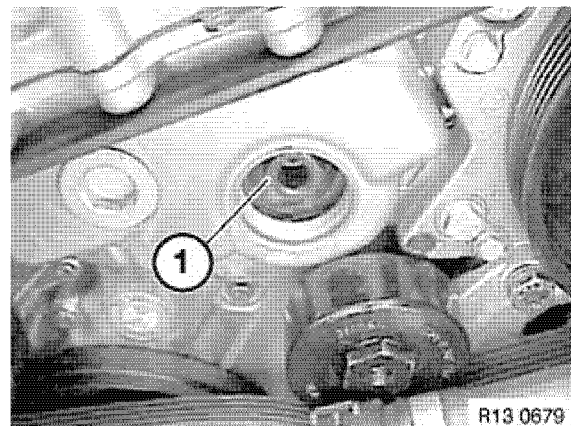

Figure 6-24
10. Hold crankshaft to prevent turning and remove nut (1, **Figure 6-24**).